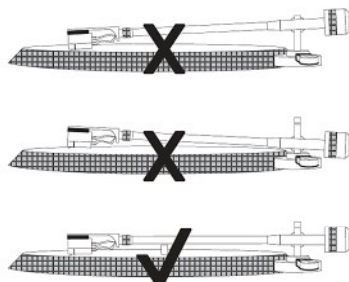

Figure 7
**Audiophile Setup:** For maximum fidelity and minimal record wear, position the cartridge using the *Rek-O-Kut* alignment protractor, or an overhang spec or gauge sometimes supplied with turntables or arms. If your turntable has an arm height adjustment, set the arm to be parallel to the platter (See Figure 7). Set the tracking force to the the recommended tracking force specified for your cartridge. Set the anti-skating control to the same value, or as required.